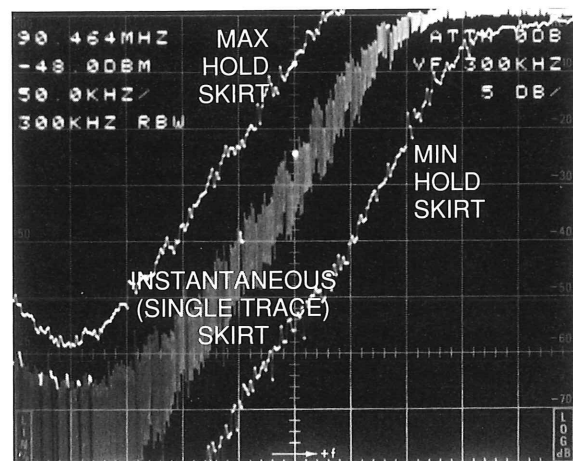

Figure 26. Determining deviation by measuring skirt width.
5. Activate MAX HOLD in register A and MIN HOLD in register C. Allow several minutes for the display to build up. The display should resemble Figure 26. The center trace is the result for a single sweep.